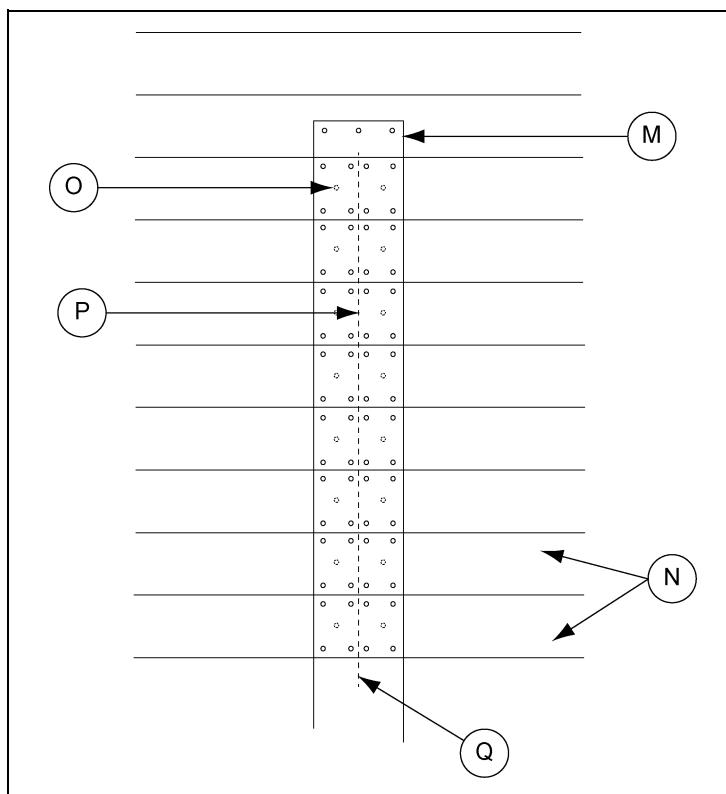

Figure 5D Oversplice Bolt Pattern for Small Grain Floors
2. Place the undersplice under the planks. Make sure the undersplice extends 3" across each plank. The splice should extend 3" under each plank. The splice should be screwed in place as shown in Figure 5D on Page 16.